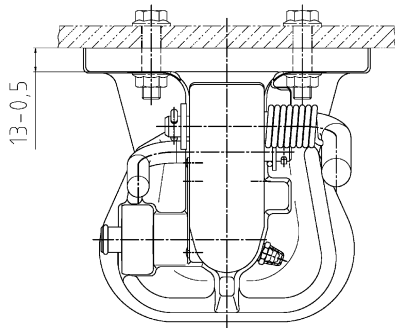

Fig. 5
- Fasten the coupling with 4 bolts and self-locking nuts (see table) (see Fig. 5).